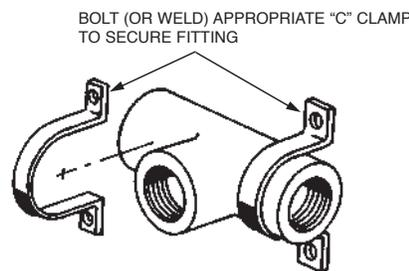

FIGURE 5-1
2. All distribution fittings must be secured to the mounting surface with suitable clamping devices or to a mounting bracket that can be welded to the mounting surface. See Figure 5-1. If Distribution Manifold Block is to be used, install either by bolting or welding. When bolting the block, use two 5/16 in. bolts with a flat washer and a lock washer on each. Bolts and washers are supplied by others.